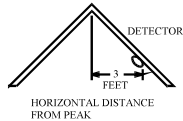
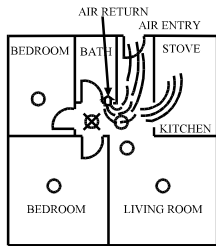

Fig. 3 – Smoke alarm location for gabled ceilings
Fig. 4 – Dead-air areas
If some of your rooms have sloped, peaked, or gabled ceilings, try to mount alarms 0.9 m measured horizontally from the highest point of the ceiling as shown in Fig. 3.
- In dead-air areas, where ventilation systems cause air-flow that would not pass through the smoke alarm sensing chamber. Avoid also air-flow from areas where normal combustion particles are expected, such as kitchens. Fig. 4, which indicates the correct and incorrect smoke alarm locations.
- In dead air spaces, which are often at the top of a peaked roof or in apex of ceilings and walls. Dead air may prevent smoke from reaching a smoke alarm. See Fig. 3 and Fig. 4 for recommended mounting location.